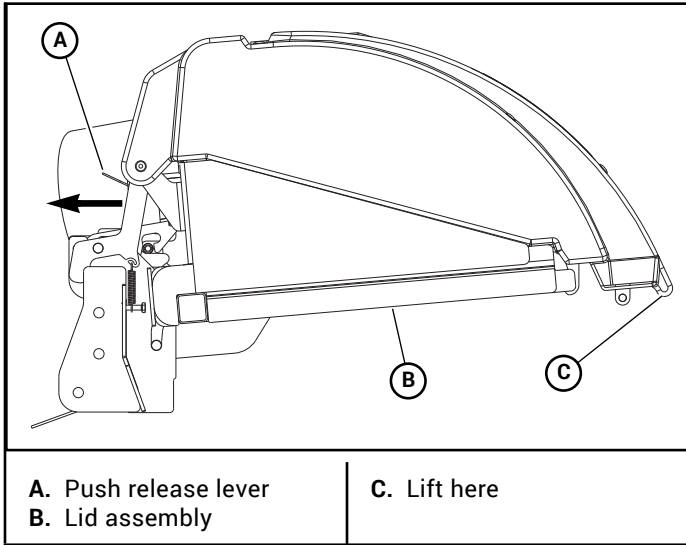
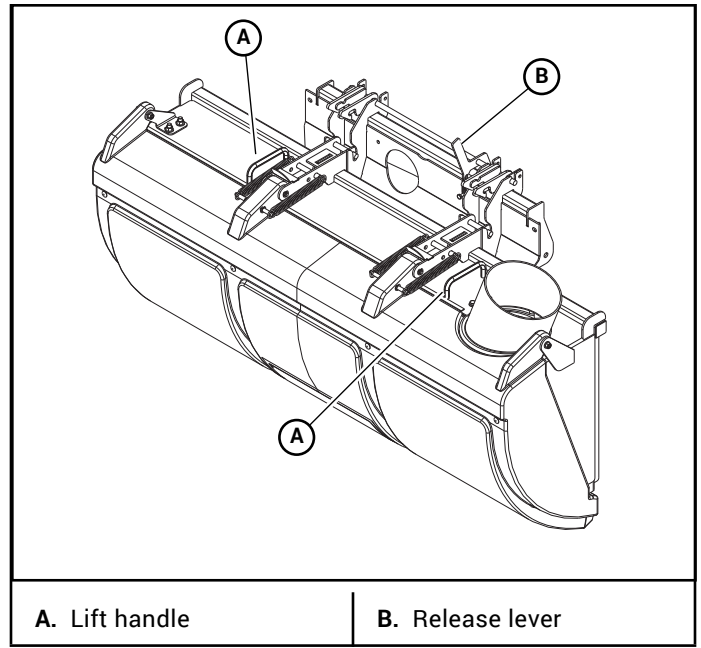

Figure 4-22
Figure 4-23
1. Lift the lid assembly slightly and push the release lever to release the latches. Figure 4-22 & Figure 4-23
3. Using the lift handles lift the lid assembly out of the notches on the mount assembly. Figure 4-23